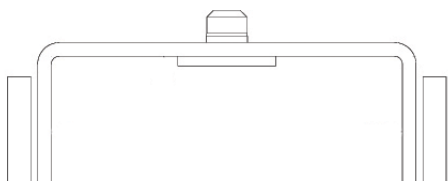

Fig. 1a
3. Inspect top of OUTER TUBE for crowning (top center of tube is higher than top sides). **Fig. 1a**